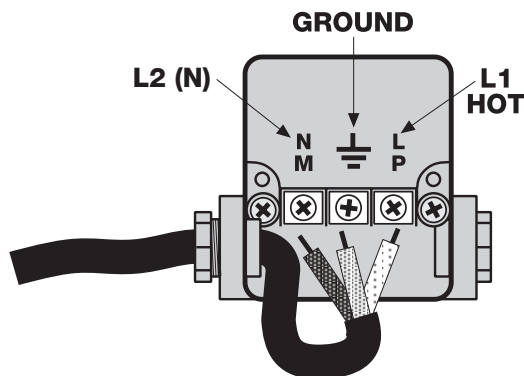

fig. 1
4. Remove power leads (N/Mp, Ground, and L/P) from junction box. (fig. 1)
16. If no leak is detected, reroute power leads into junction box and reconnect terminals (N/Mp, Ground, and L/P). (fig. 1)